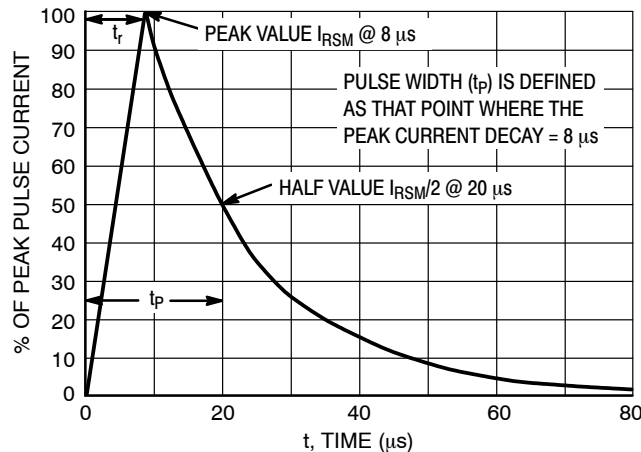

Figure 5. 8 x 20 μs Pulse Waveform
3. Surge current waveforms per Figure 5.